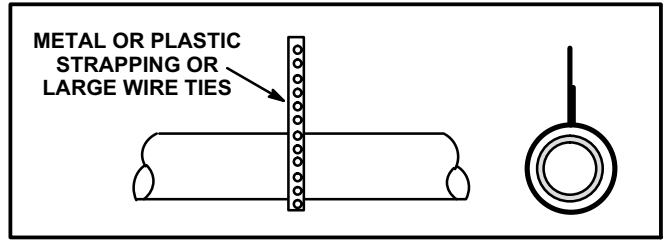

FIGURE 4
- 8 - Use isolation hangers to suspend furnace vent pipe and to support vent termination. See figure 4.